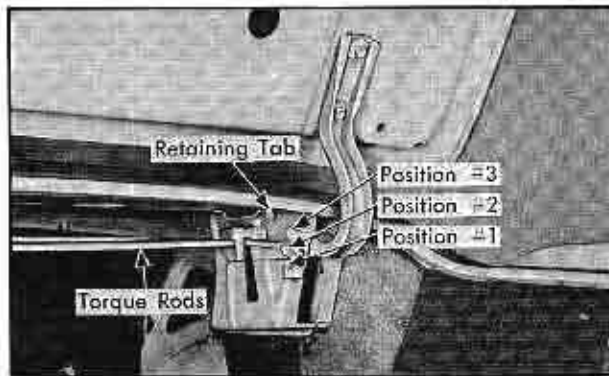

Fig. 3-80 Deck Lid Torsion Rod Adjustment
2. With the torque rods set in position 1, Fig. 3-80, a decrease in the effort required to open the lid can be had by adjusting the torque rod to positions 2 or 3. A corresponding increase in the effort required to close the lid results from this adjustment.
6. Bend up retaining tab on hinge box at retaining pin and remove pin. Fig. 3-80.